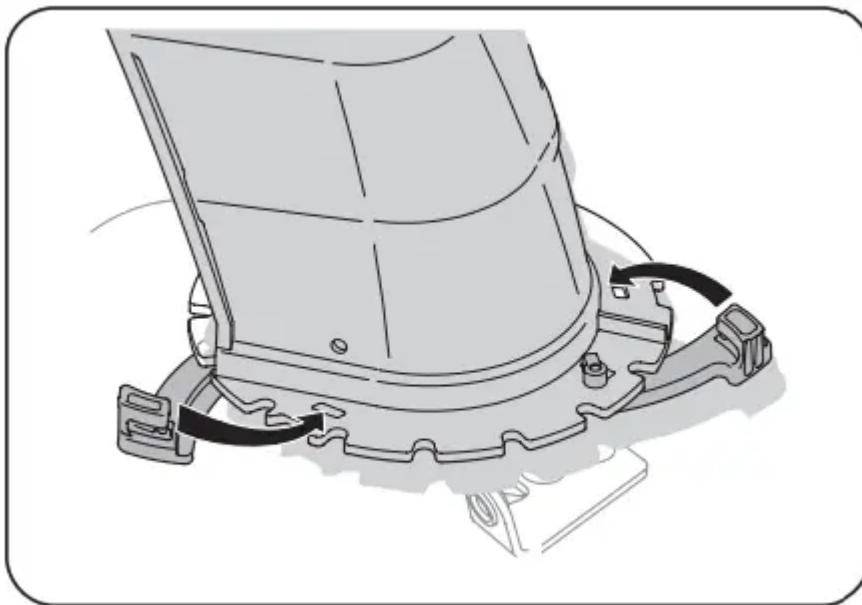

Figure 10
2. Close flange keepers to secure chute assembly to chute base. Flange keepers will click into place when properly secure. See “Figure 10”10.